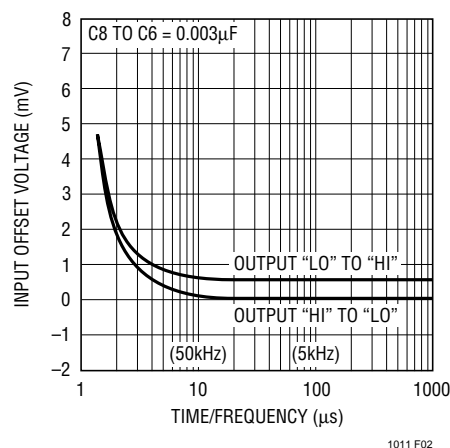

Figure 2. Input Offset Voltage vs Time to Last Transition
This circuit is especially useful for general purpose comparator applications because it does not force any signals directly back onto the input signal source. Instead, it takes advantage of the unique properties of the BALANCE pins to provide extremely fast, clean output switching even with low frequency input signals in the millivolt range. The 0.003µF capacitor from Pin 6 to Pin 8 generates AC hysteresis because the voltage on the BALANCE pins shifts slightly, depending on the state of the output. Both pins move about 4mV. If one pin (6) is bypassed, AC hysteresis is created. It is only a few millivolts referred to the inputs, but is sufficient to switch the output at nearly the maximum speed of which the comparator is capable. To prevent problems from low values of input slew rate, a slight amount of DC hysteresis is also used. The sensitivity of the BALANCE pins to current is about 0.5mV input referred offset for each microampere of BALANCE pin current. The 15M resistor tied from OUTPUT to Pin 5 generates 0.5mV DC hysteresis. The combination of AC and DC hysteresis creates clean oscillation-free switching with very small input errors. Figure 2 plots input referred error versus switching frequency for the circuit as shown.